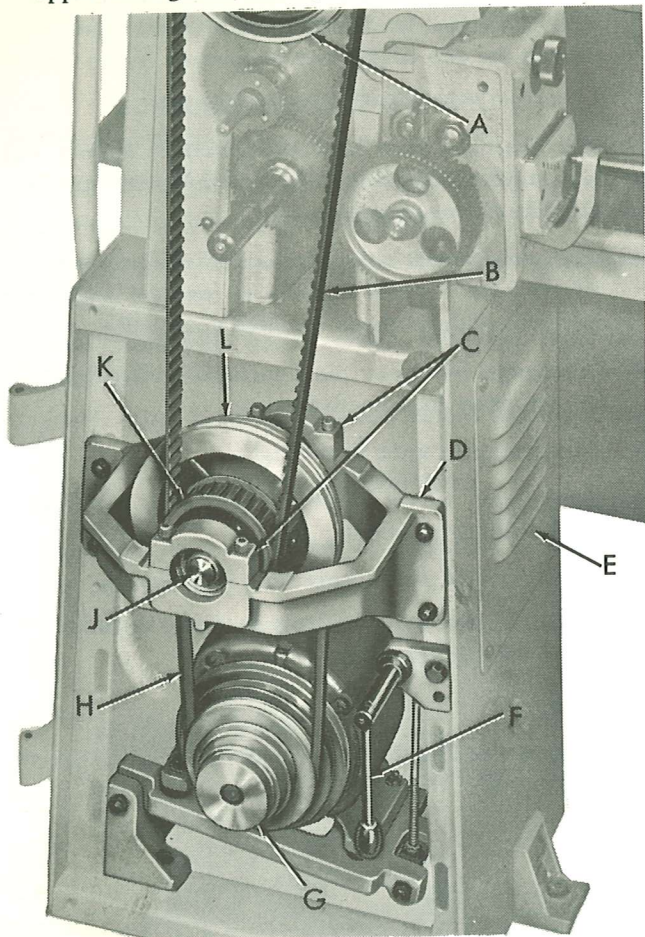

Figure 22
1. Loosen slightly the four hex nuts holding the countershaft bracket to pedestal, refer to fig. 22 page 14.
2. Remove clutch adjustment cover (E, fig. 22).
3. Raise belt tension lever (F).
4. Slip motor belt (H) off pulley (G).
5. Unscrew four socket cap screws holding front and rear bearing caps (C) on countershaft bracket (D).
6. Remove bearing caps (C).
7. Raise front of countershaft spindle assembly (J) out of countershaft bracket (D) just enough so timing belt (B) can be slipped off pulley (K) and countershaft spindle assembly (J).
8. Remove timing belt (B) from upper pulley (A).
9. Install new timing belt on upper pulley (A).
10. Repeat step 7 procedure and slip new belt on countershaft spindle assembly (J) and pulley (K).